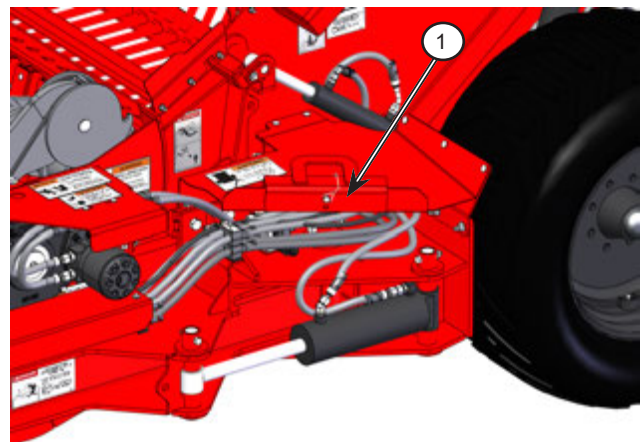

Figure 6.11: Remove the hitch transport lock from storage location
2. Remove the hitch transport lock (1) from the storage location on the hitch hose guard; see *Figure 6.11*.